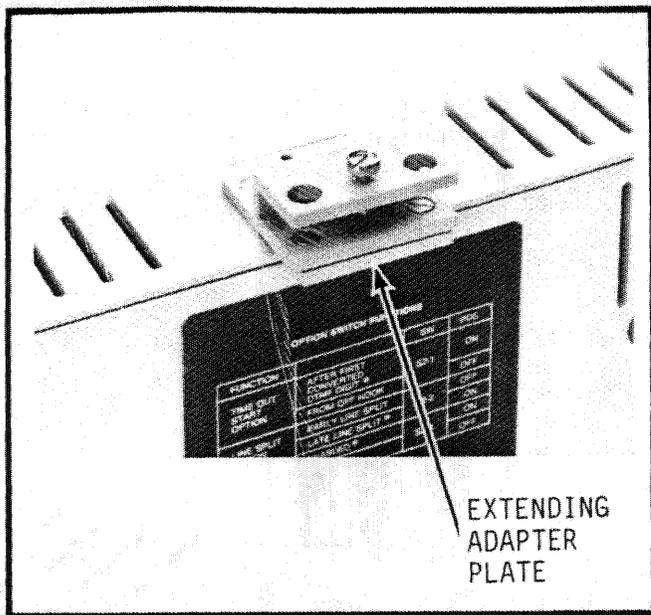

Figure 13 Install Extending Adapter Plate on Housing
6.27 Certain Western Electric frames require the addition of the Extending Adapter Plate to the mounting hardware of the M-164. This arrangement assures sufficient clearance between the unit and certain capacitor bolts on the linefinder. To add the Extending Adapter Plate, first remove the existing mounting bracket. Secure the Extending Adapter Plate to the housing with the two screws formerly used to secure the bracket to the housing. See figure 13. Then secure the mounting bracket to the plate with the two 4-40 x 1/4 flat-head slotted machine screws provided in the M-164-24 kit.